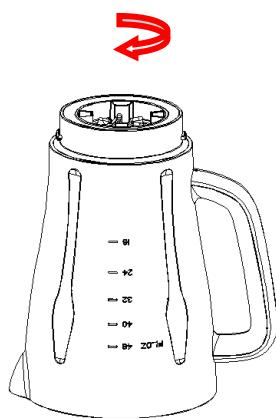

Fig.8
4. Dismantle all detachable parts. Lift the jar assembly off the motor unit, the blade on the jar cannot be detached and should be cleaned with the jar together (see fig.8).